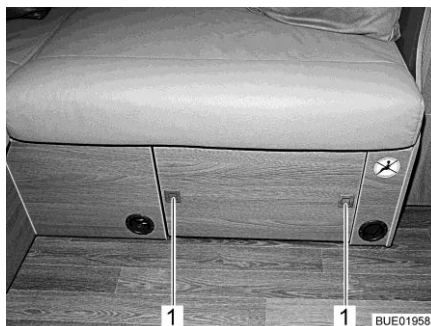

Fig. 131 Coffee table, stored
- Press the push buttons (Fig. 131,1) on the seat box panel. The push buttons jump out.
- Press the push buttons (Fig. 131,1) in until they engage.